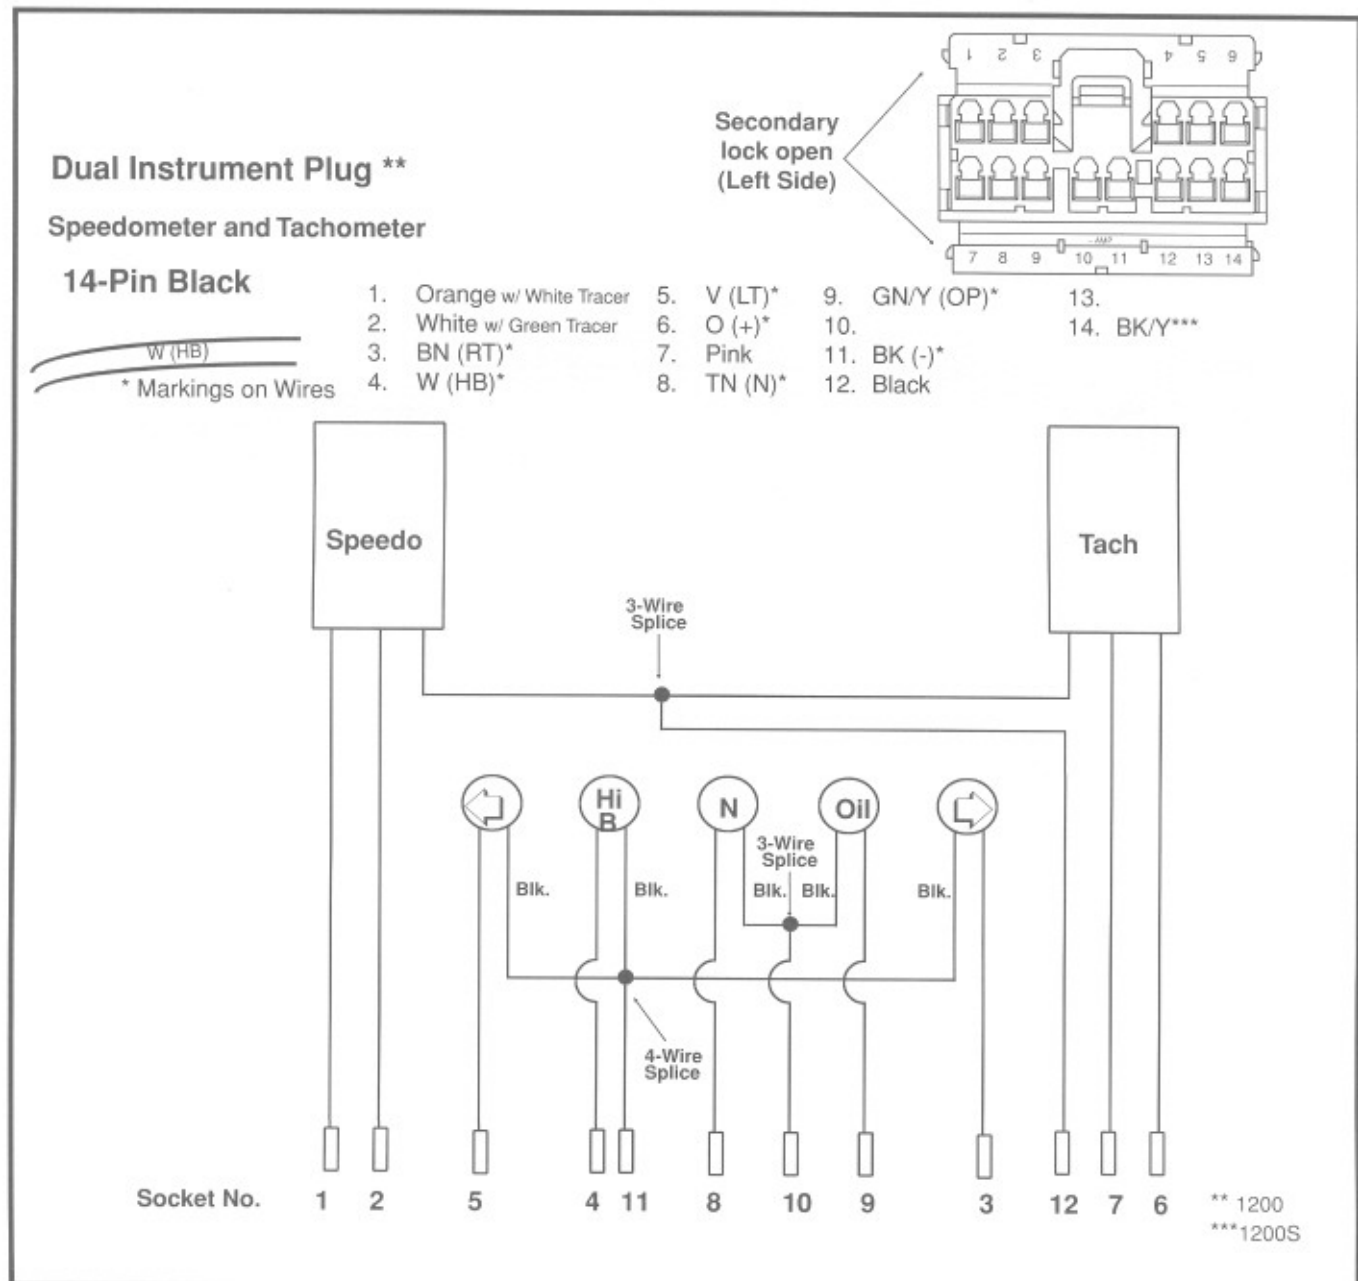

Figure 7-66. Dual Instrument Plug- Schematic and Wire Colors
14. Fit rear wire seal into back of socket housing, if removed. Grasp sockets approximately 1 inch (25.4 mm) behind contact barrel. Push sockets into their respective chambers. For correct wire color locations, see Figure 7-63 (no tachometer) or Figure 7-66 (tachometer). Feed each socket into chamber until it "clicks" in place. Verify that socket will not back out of chamber; a slight tug on the wire will confirm that it is locked in place.